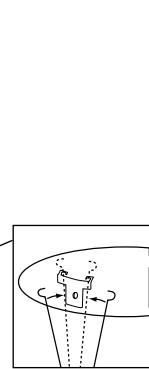

Figure 5
3. Squeeze tension springs together and insert into holder in housing for 5"/6" Onyx. (Figure 5)
4. Squeeze in mounting torsion springs on both sides and carefully push fixture into the housing. (Figure 5)